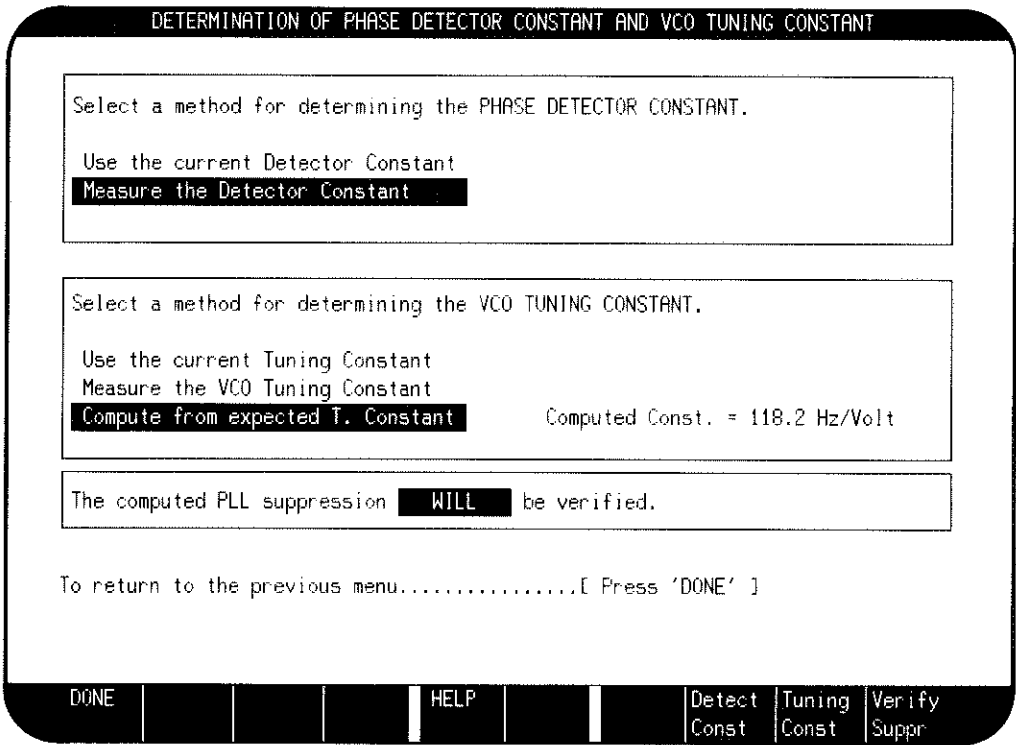

Figure 3-12. Determination of Phase Detector and VCO Tuning Constant Menu
8. On the HP 3048A press the **Calibr Process** softkey to obtain the Determination of Phase Detector Constant and VCO Tuning Constant menu. Set the method of determining the phase detector and VCO tuning constants and the verification of the phase lock loop suppression as shown in figure 3-12. (The displayed Computed Constant may be quite different from the one in figure 3-12. It will be updated later.) When done, press the **DONE** softkey.